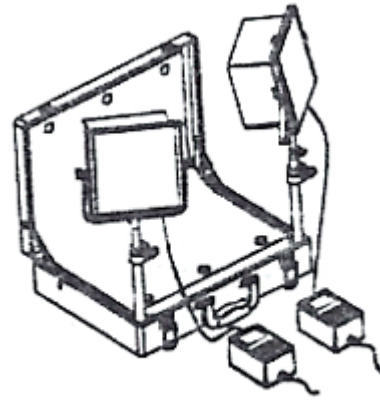

Fig. 5
- Plug the AC/DC Adaptor Plug into the sockets on the Mini Fluorescent Light Banks (Fig. 5).